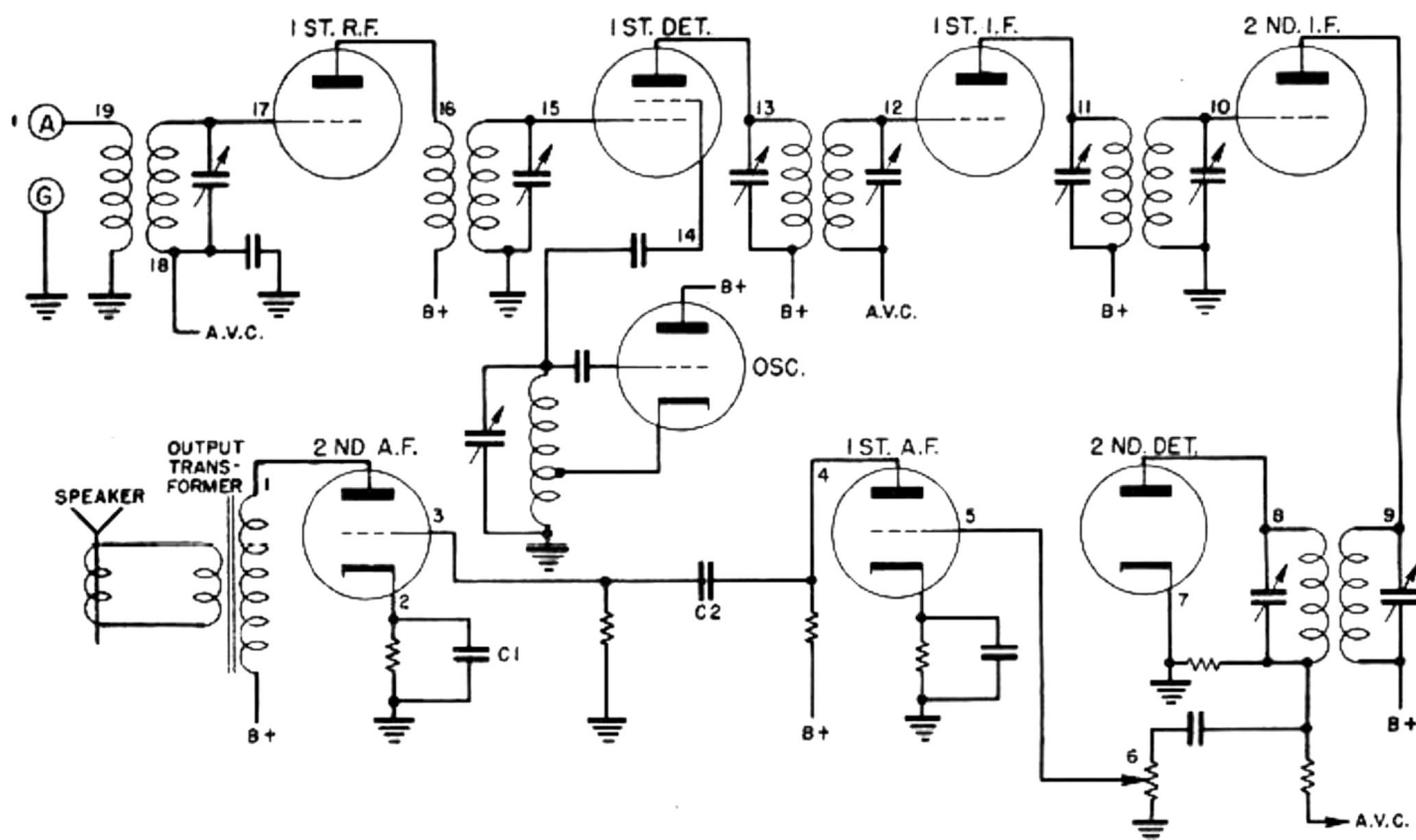
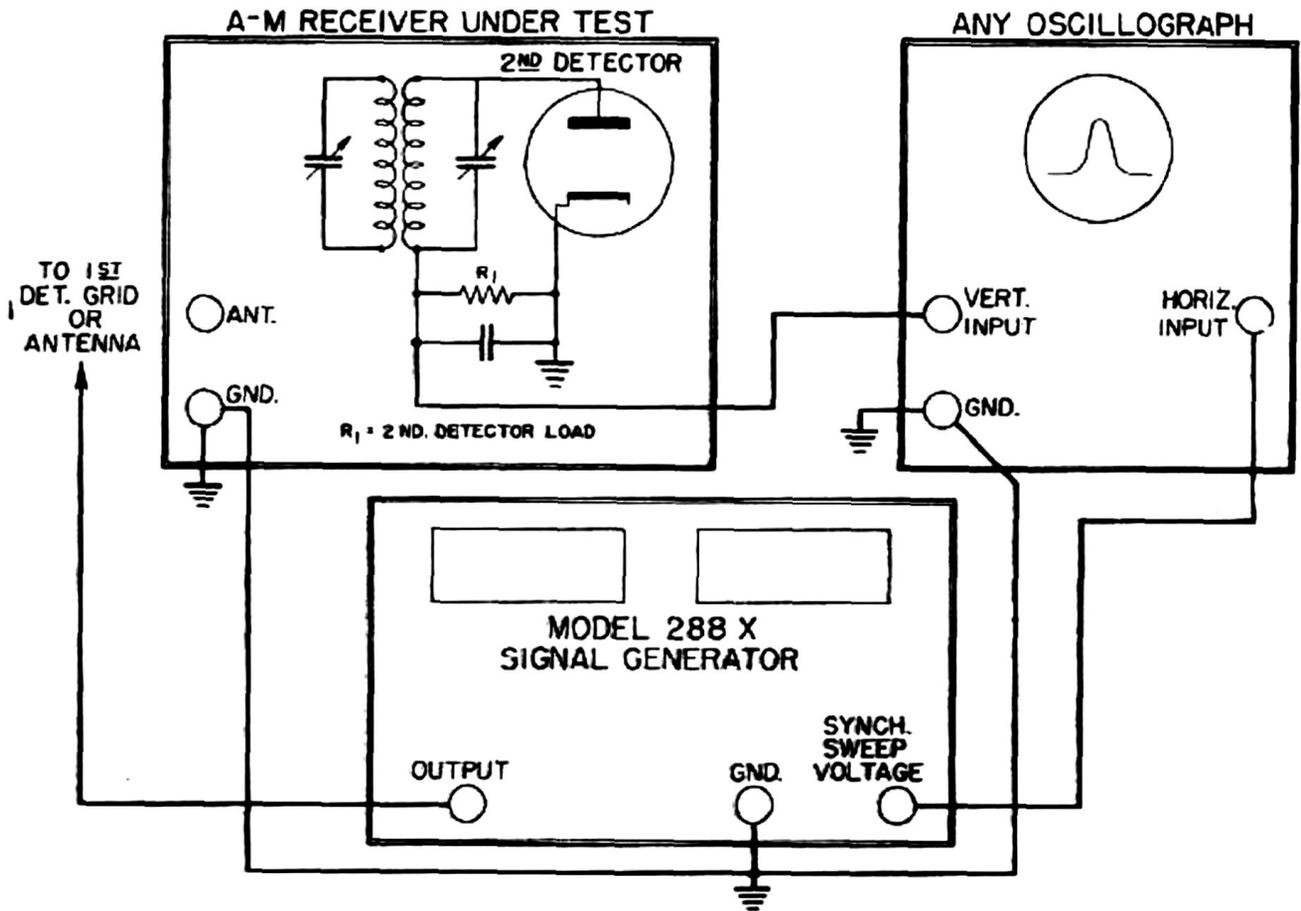
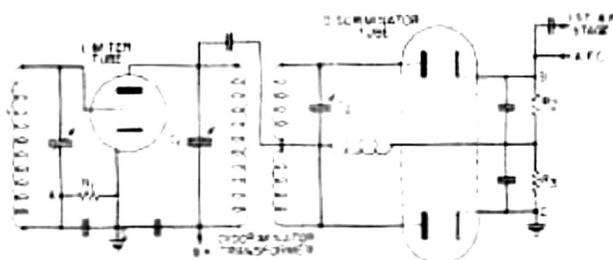

Figure 4.1 - Basic Circuit,
Figure 4.2 - Interconnections for Alignment
Figure 4.3 - Discriminator Circuit
In general, all of the models may be used for the same purpose. Should the Model 277X be purchased, a voltmeter may be used, in many cases, to replace the decibel meter. As the applications indicated here are general in nature, the specifications of the manufacturer should be consulted in making all tests. A basic circuit diagram of the seven tube amplitude modulated superheterodyne receiver which is referred to throughout the following discussions is shown in Figure 4.1. Frequency modulated receiver circuits have, in addition to the stages shown, limiter and discriminator (2nd detector) stages. (Frequency modulation is discussed in detail in Section II, Theory, Paragraph 2.6).
The following chart summarizes the alignment effected, the signals required, the indicating medium required, the points of connection for both, and the alignment adjustment necessary for the alignment of the stages of both amplitude and frequency modulated receivers. In conjunction with this chart, reference is made to the text for greater detail on the alignment to be made and to Figure 4.2 which shows the interconnections of the oscillograph, signal generator and the receiver. All points given are with reference to the basic circuit of the superheterodyne receiver, illustrated in Figure 4.1, and the discriminator circuit illustrated in Figure 4.3. The oscillograms which will be obtained when making alignment by means of the oscilloscope are shown in Figure 4.4 - 4.10.
1. In frequency modulated receivers there is at least one, and sometimes two, limiter stages ahead of the discriminator (2nd detector) stage. See Figure 4.3. The general procedure for the alignment of frequency modulated receivers is similar to that for the alignment of amplitude modulated receivers except that, in the alignment of various stages, it is necessary to have either a sensitive microammeter, preferably zero-centered, a vacuum tube voltmeter, such as the Hickok Models 125, 203 or 110D, or cathode ray equipment such as the Hickok Model 305.
2. Figure 4.3 illustrates a typical limiter and discriminator circuit. If no scope is available it will be necessary in the alignment of all i-f and r-f stages and the local oscillator preceding the limiter stage, to either disconnect the limiter load resistance, R1, from ground and insert a microammeter, or to connect a vacuum tube voltmeter across R1, and use either meter as an indicator of alignment of the preceding stages. The alignment procedure will be identical to that for amplitude modulated receivers.
-- All connections are made in reference to Figure 4.1. Connect the decibel meter either at the primary of the output transformer (point 1), or across the voice coil of the speaker, and feed a signal in at the grid of the audio frequency output stage (point 3). Note the reading of the indicating meter, and, maintaining the signal level constant, transfer the signal to the grid of the 1st A.F. (point 5). The gain of the stage can be calculated from the increase in the meter reading. If the tube is a triode, the gain may not exceed 10. However, if it is a pentode, the gain may be as high as 50 or 100.
a. General - The Model 288X, when properly used, is a very valuable instrument for locating trouble in electronic devices. In the case of radio receivers it is advisable in locating faults, to start at the speaker or output stage and work back towards the antenna. All following information on trouble-shooting is with reference to the basic circuit of the superheterodyne receiver, illustrated in Figure 4.1.